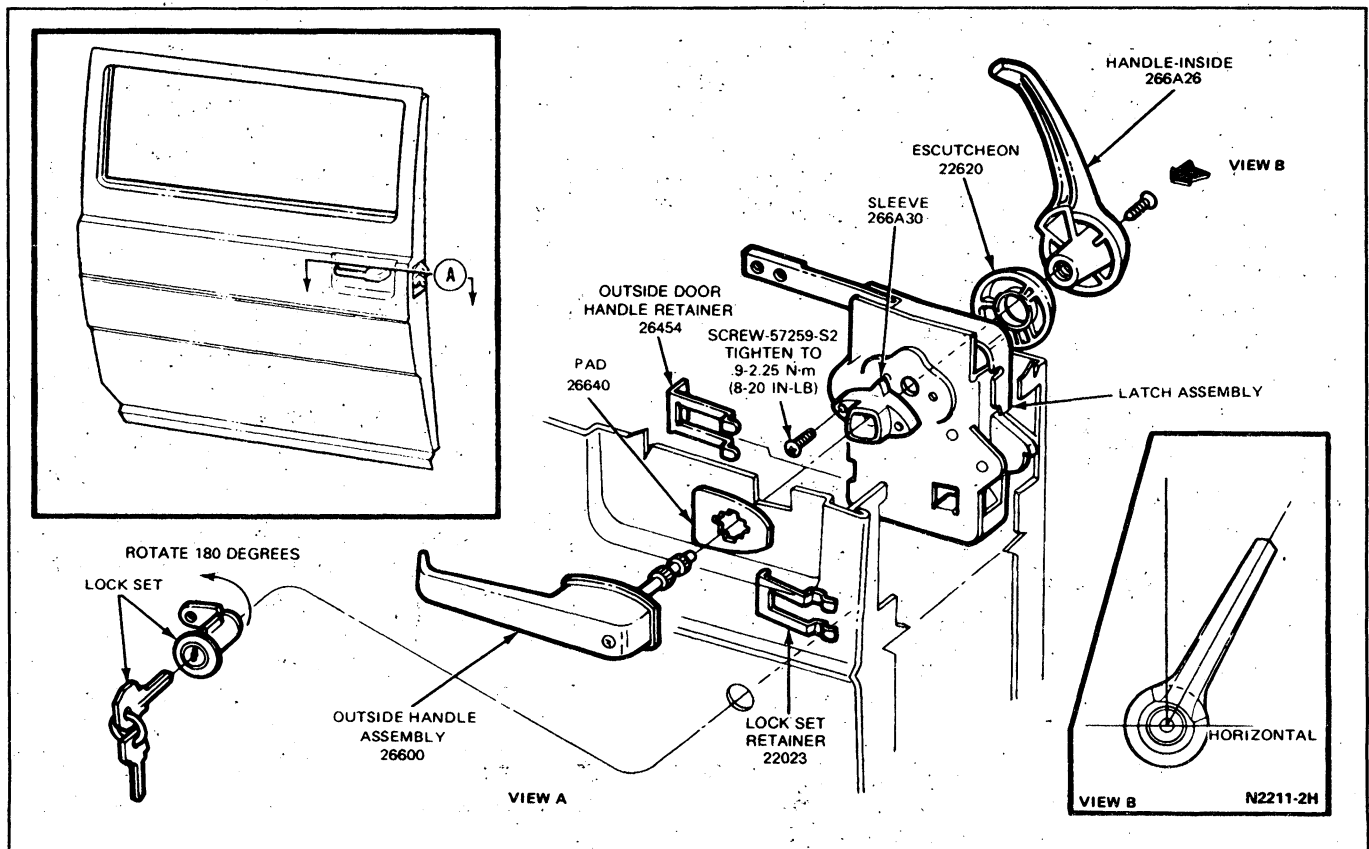

FIG. 5 Sliding Door—Lock and Latch—E-150—E-350
1. Remove door trim panel. Refer to Section 45-03, Door Trim Panels. Also, remove inside handle attaching screw and inside handle and escutcheon (Fig. 5).
13. Position the sleeve to the latch assembly and install the retaining screws (Fig. 5).
15. Connect the rear latch actuating rod to the rear latch assembly (Fig. 5, Main View). **The front latch must be in the full latched position and the rear latch must be in the secondary position before connecting the rear latch actuating rod to the rear latch assembly. Do not push or pull on the rod to make the hookup. Align the attaching holes by rotating the adjuster on the rear latch actuating rod.**